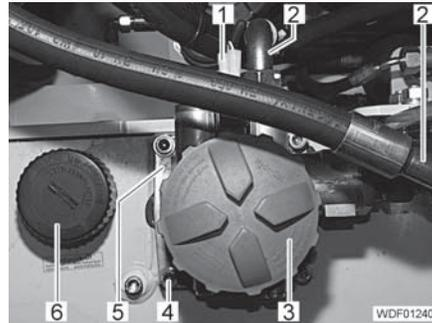

Fig. 224 Return filter
- Open the cap (Fig. 224,6).
- Briefly open the cap (Fig. 224,3) so that the fluid can flow out of the return filter and into the hydraulic fluid tank.
- Close the 2 caps (Fig. 224,3 and 6).
- Remove the 2 connectors (Fig. 224,1) from the pressure switch.
- Unscrew and close off the hydraulic lines (Fig. 224,2).
- Unscrew the 4 screws (Fig. 224,4).
- Pull the return filter (Fig. 224,5) upwards and to the rear out of the hydraulic fluid tank.
- Screw in the 4 screws (Fig. 224,4) with spring lock washers and tighten.
- Screw the hydraulic lines (Fig. 224,2) onto the return filter and tighten.
- Connect the 2 connectors (Fig. 224,1) to the pressure switch.